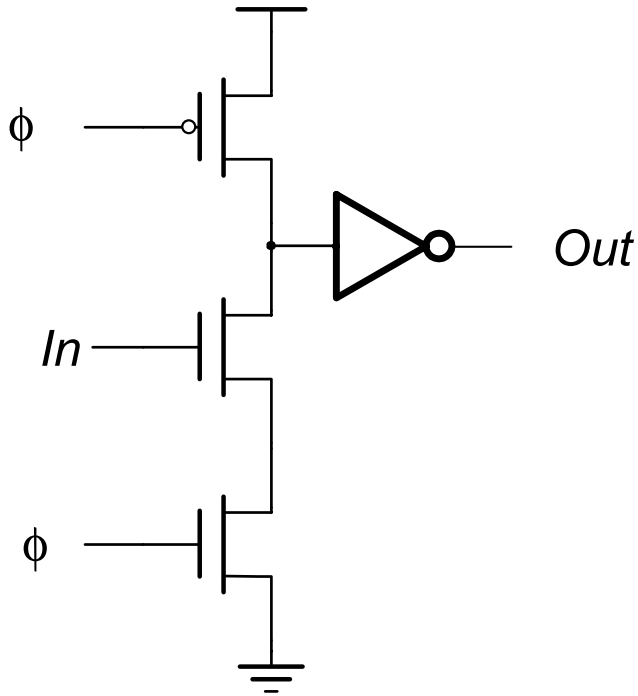

Fig. 1.
b) (8pts) Calculate the optimal stage effort (product of the logical effort and fanout) for the domino buffer with a foot switch (as one shown in Fig.1).